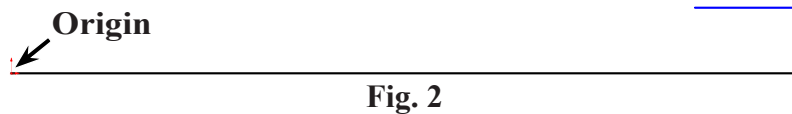

Fig. 2
Step 3. Click **Line**  (L) on the Sketch toolbar.
Step 4. Draw **3 lines** starting at Origin , **Fig. 2**.
Step 5. Click **Smart Dimension**  (S) on the Sketch toolbar.